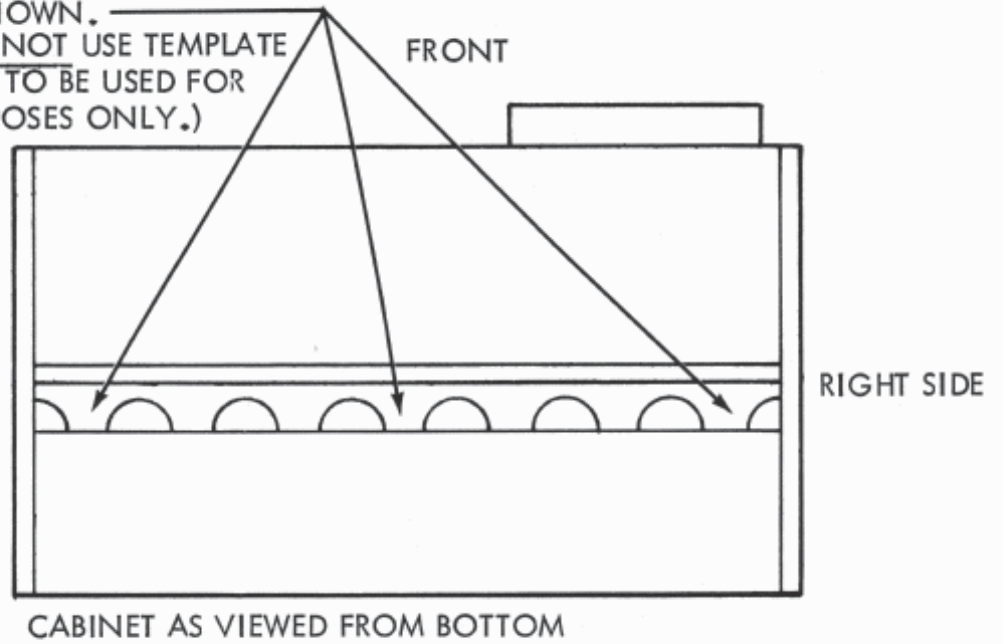
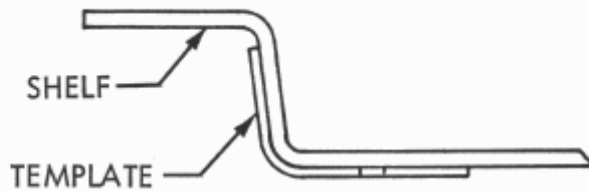

FIGURE 3
FIGURE 4
- 3. Drill the six 7/32 diameter holes in bottom side of cabinet shelf per Figure 3. The 195029 Template is provided for depth location as shown in Figure 4.